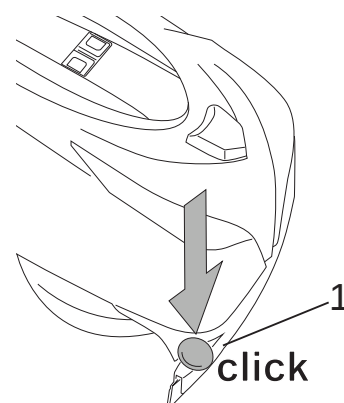

Fig.2B
- Montér bufferhjulet (Fig.2B-Ref.1).